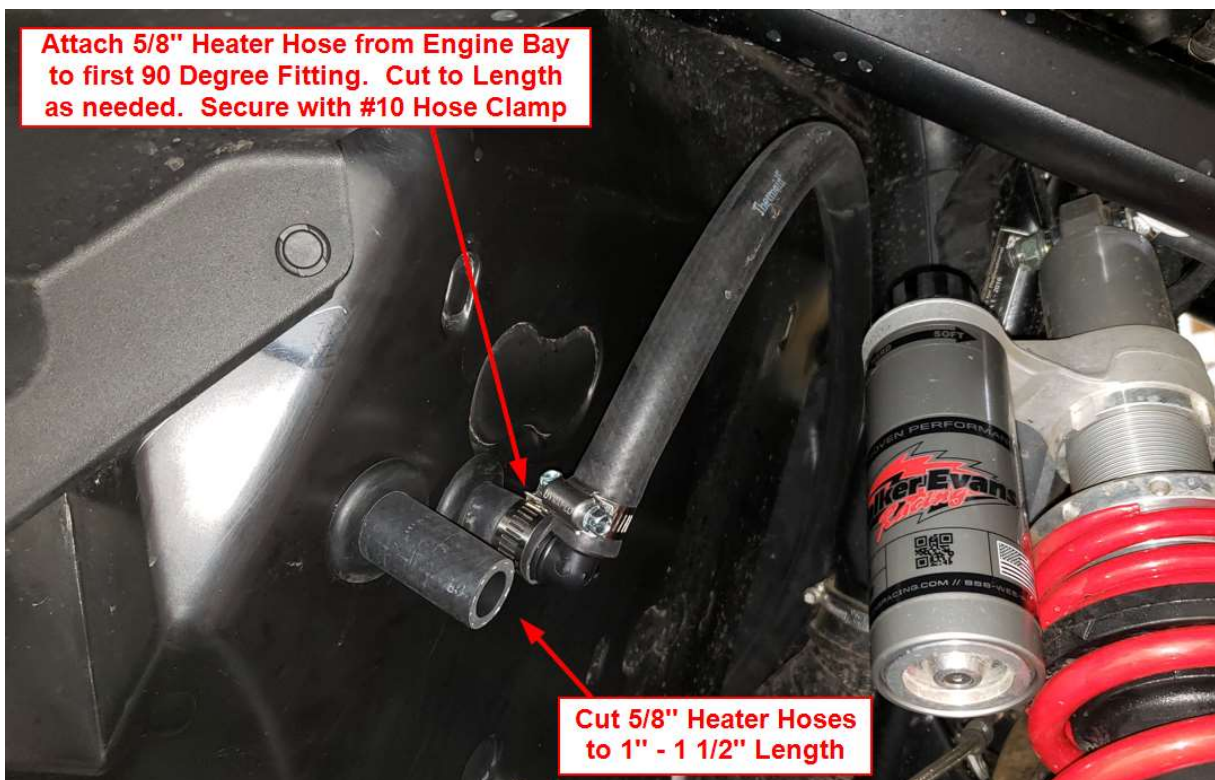

Figure 21
- b. Route the 6' (or 9') portion of 5/8" Heater Hose at the front Passenger Side of the vehicle toward the heater unit. Install one of the remaining 90 Degree Fitting to the end of the hose and attach the inner most 5/8" Heater Hose as shown in Figure 21, secure with #10 Hose Clamps. Pull excess Heater Hose toward the rear.